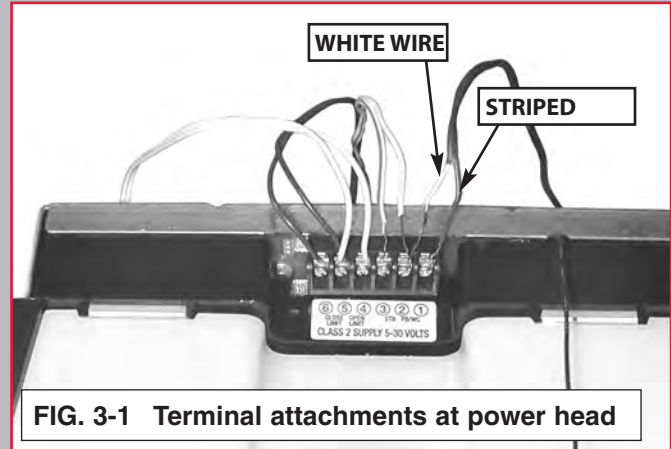

FIG. 3-1 Terminal attachments at power head
- Attach the **striped wire to terminal #1** and **white wire to terminal #2** (Fig. 3-1).